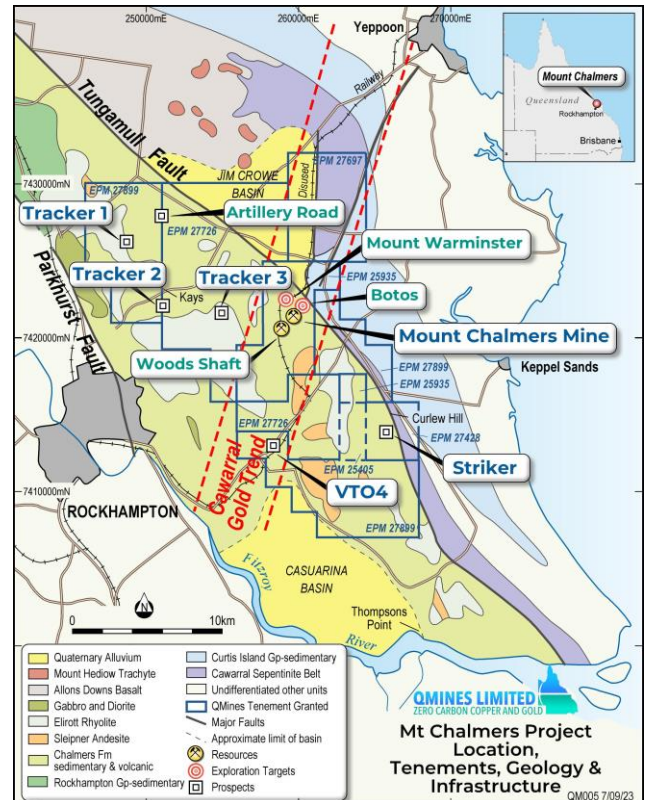

Figure 1: Location of Mt Chalmers tenure, geology & infrastructure.
Q Mines Limited (ASX:QML) (Q Mines or Company) is pleased to announce that drilling will commence shortly at the highest ranked Electromagnetic (EM) target, VT04, from its regional airborne geophysical survey. VT04 is situated within the Company's flagship Mt Chalmers Copper Gold Project, located 17km north-east of Rockhampton, Queensland (Figure 1).
The VT01 – VT03 EM anomalies are located in the north-west quadrant of the tenement package at the Artillery Road prospect. The highest priority VT04 EM anomaly is located south towards Rockhampton (Figure 1). These EM anomalies have been ranked as priority drill targets by the Company.